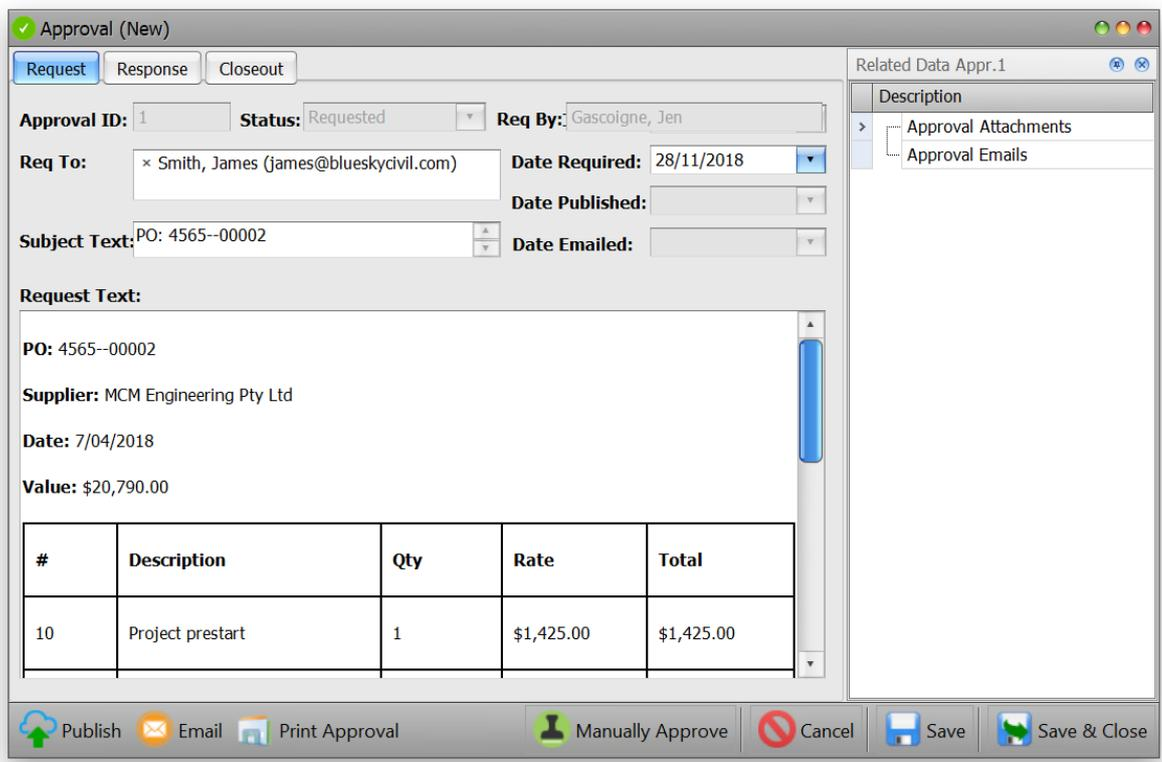

Figure 55 New approval request
4. We are going to publish this request. This makes the request visible to users in the system and allows the relevant person/s to open the request and approve it. The other option is to email the request. This not only publishes the request as above but also emails it to the addressee/s. To publish click the *Publish* button at the bottom left of the screen (Figure 55). Then click *Save & Close*.